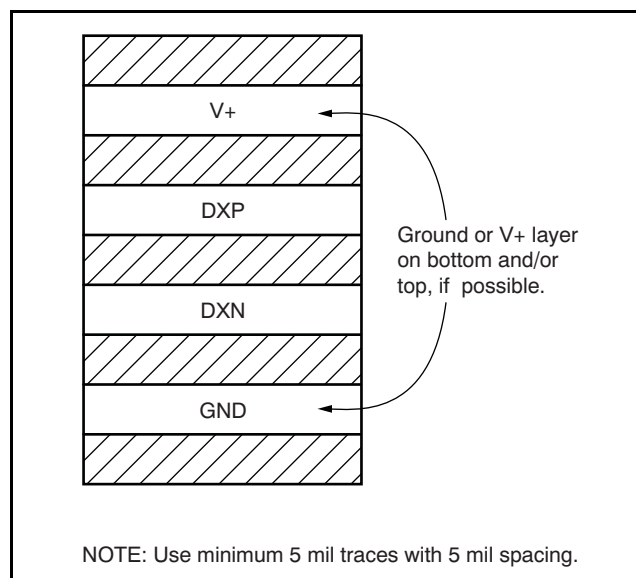

Figure 19. Suggested PCB Layer Cross-Section
2. Route the DXP and DXN traces next to each other and shield them from adjacent signals through the use of ground guard traces, as shown in Figure 19. If a multilayer PCB is used, bury these traces between ground or V_{DD} planes to shield them from extrinsic noise sources. 5 mil (0.005 in, or 0.127 mm) PCB traces are recommended.